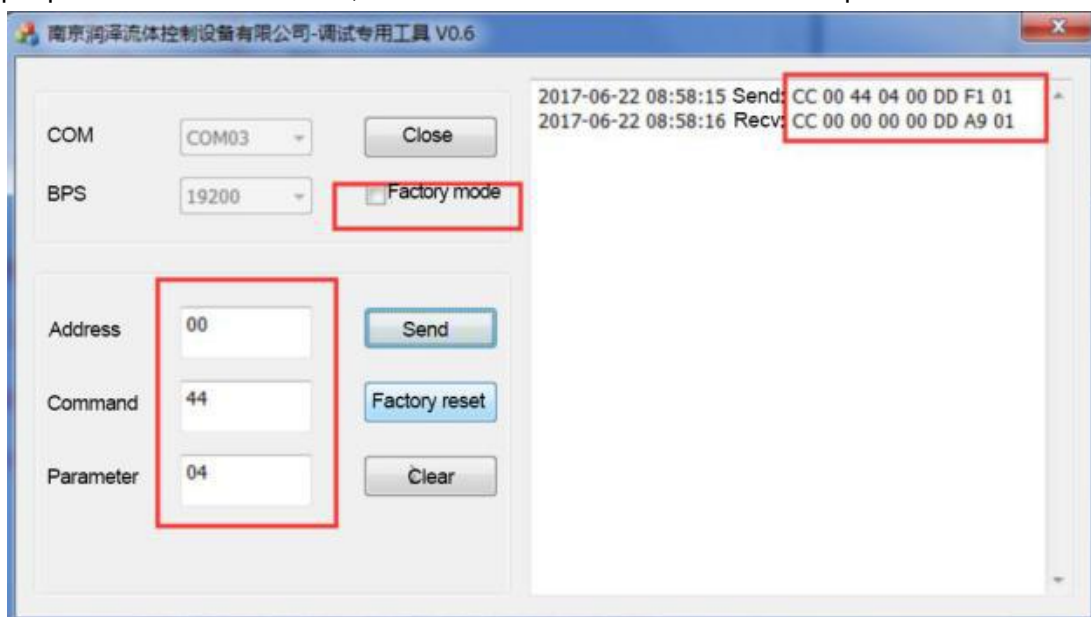

Figure 8
3. Input "00" into "Address" (if address has been changed, then input new address), input "44" (motor rotates by encoder to automatically choose best path) into "Command", input "04" into "Parameter", click "Send", switching valve will rotate to port 4 and link with public port, received commands as Figure 8.